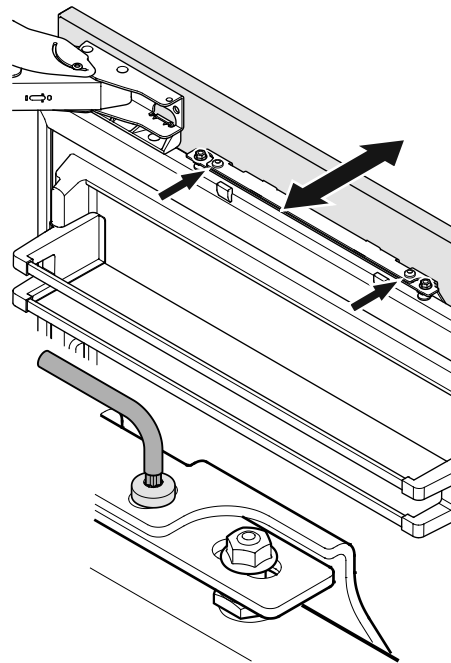

Figure 41
10. Loosen the three screws on the top of the attachment bracket, align the panel as shown in **Figure 41** and tighten the screws. This can also be done with the lower attachment bracket.